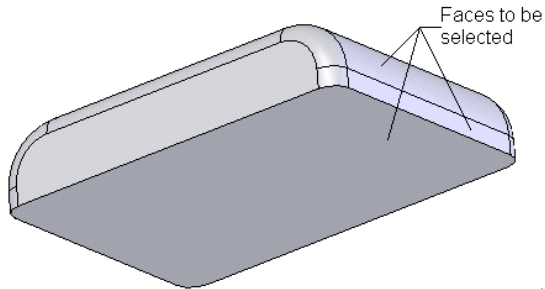

Figure 6-100 Face to be selected to remove
- Add the shell feature to create a thin walled part and remove some of the faces, refer to Figures 6-100 and 6-101.
2. Rotate the model and select the faces to remove as shown in Figure 6-100. The names of the selected faces are displayed in the **Faces to Remove** display area.